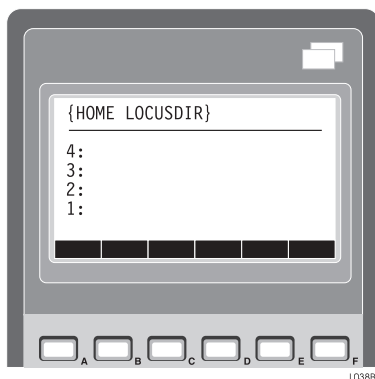

Figure 3.8: Opening Screen
1. Turn on the Handheld by pressing the **ON** key. The opening screen appears (Figure 3.8).